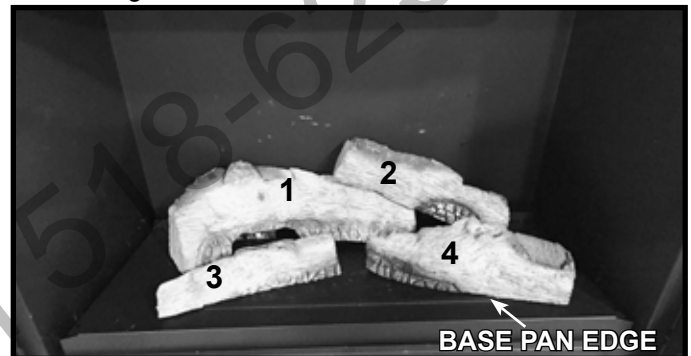

Figure 7. Install Right Front Base Log
5. Locate and install the right front base log (4) by installing the "left" end over the right burner pin and pressing "down" to engage the log pin. The "right" side of this log will be positioned by the front right hand bend tab. The face of the log should contact the base pan edge. See Figure 7.